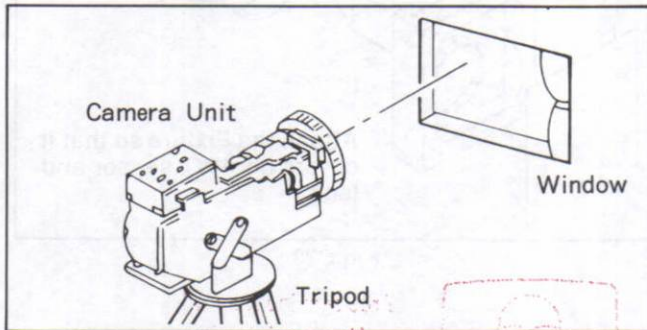

Fig.C25
- (1) Aim the camera at a sunny source (window, etc.).
- (2) Incoming light must be from an outdoor source only, source and illumination on the sensor must be more than 500Lx, and colour temperature must be within 5000 degrees to 6000 degrees Kelvin. (Refer to Fig. C25)